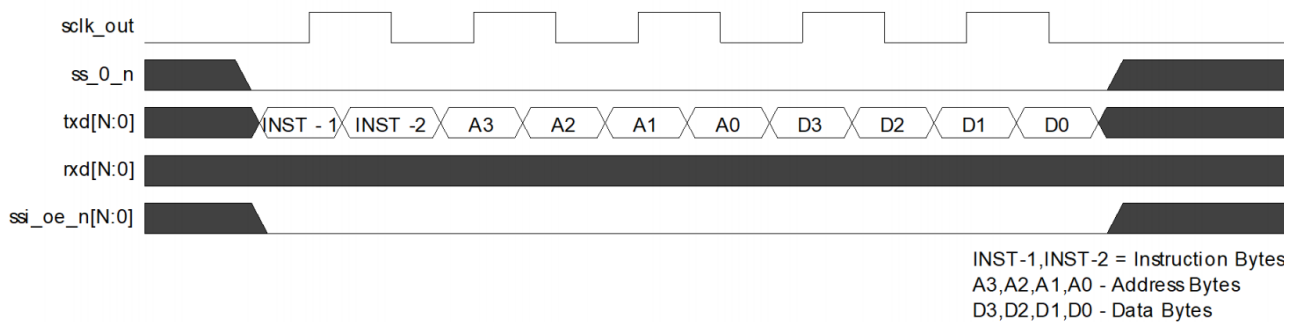

Figure 5-3-9 DDR Transfer with Instruction, Address and Data Transmitted in DDR Format
- Instruction, address, and data are all transmitted or received in DDR format. The SPI_DDR_EN (SPI_CTRLR0[16]) bit is used to determine if the Address and data have to be transferred in DDR mode and INST_DDR_EN (SPI_CTRLR0[17]) bit is used to determine if Instruction must be transferred in DDR format. These bits are only valid when the CTRLR0.SPI_FRF bit is set to be in Dual, Quad or Octal mode. Figure 5-3-9 describes a DDR write transfer where instruction, address and data all are transferred in DDR format.